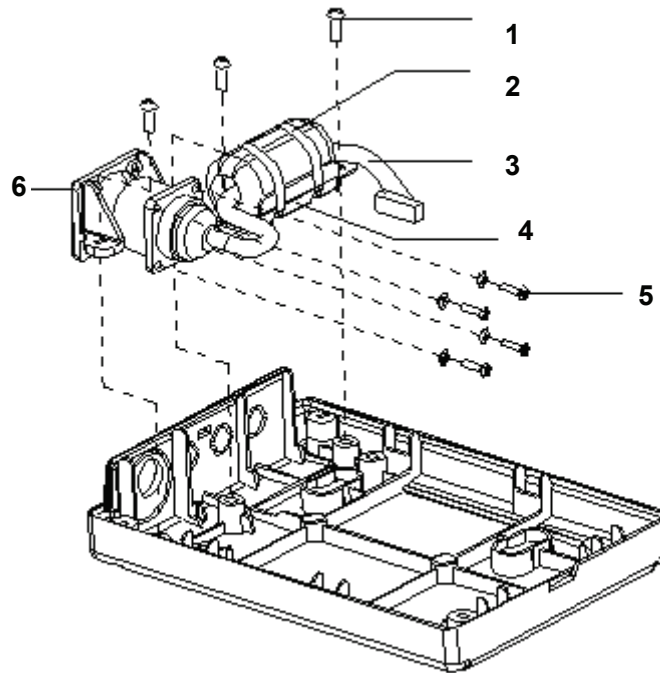

Figure 4-43 Removing ECG Module Internal Signal Cable
3) As shown in Figure 4-43, remove three M3X6 Philips panhead screws;